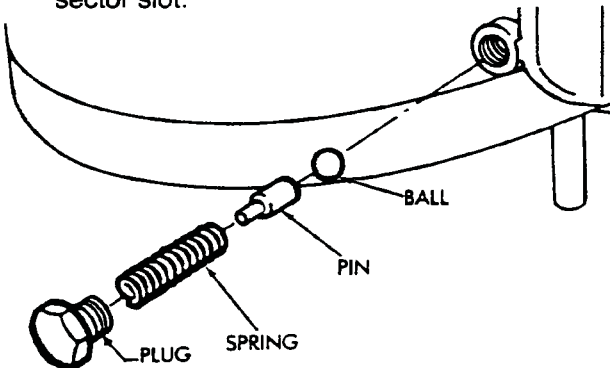

Fig. 4-17 Remove Detent Plug, Spring, Pin and Ball
22. Remove range sector detent plug, spring, pin and ball (Fig. 4-17).